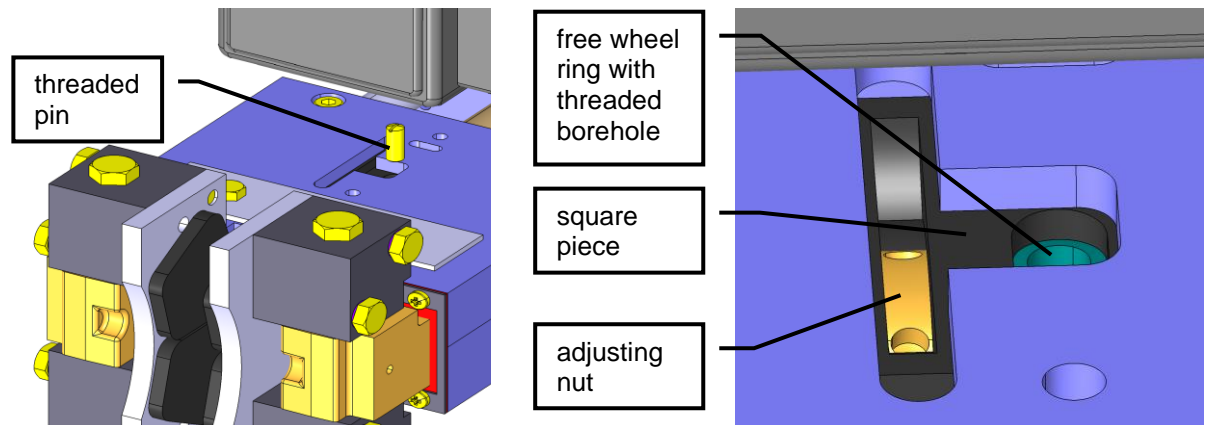

Fig. 12: Handling of the readjusting unit
3. Turn the threaded pin out of the free wheel ring (figure 12).
5. Turn around the adjusting nut (figure 12) with a hexagon key Ø4 mm in direction of brake disc until block or until the distance between brake shoes and disc is wide enough to mount new linings.
- Turn the threaded borehole inside the free wheel ring into the upper position by pumping the adjusting nut with the hexagon key  $\varnothing 4$  mm. Mount threaded pin (figure 12).